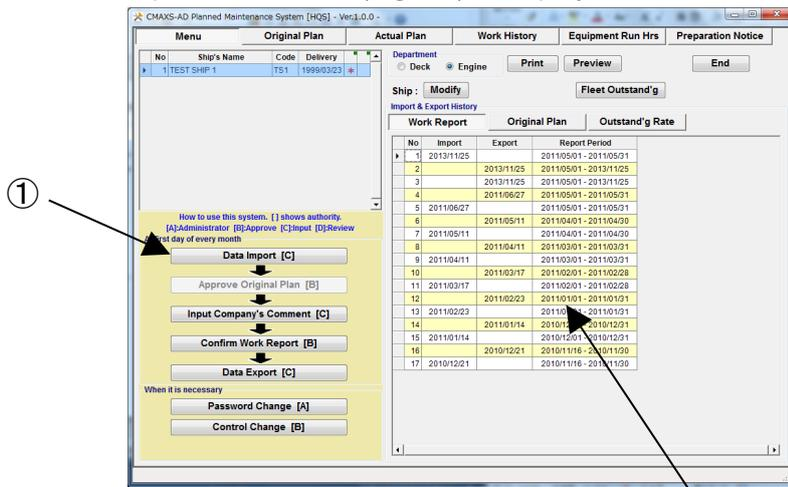

Fig.5-1 Menu Screen
(1) On the “Menu Screen”(Fig.5-1), select [Data Import].